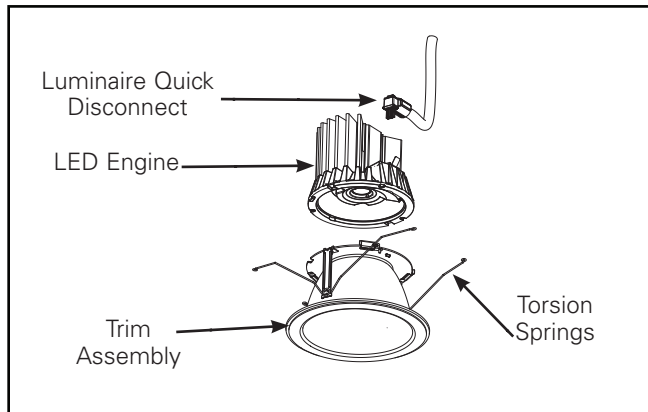

Figure 5
4. Figure 5 & 6 Representing single LED module and Medium Distribution Trim
7. Insert LED engine on to trim assembly. Align post on LED engine with slot on trim assembly (Figure 5.).